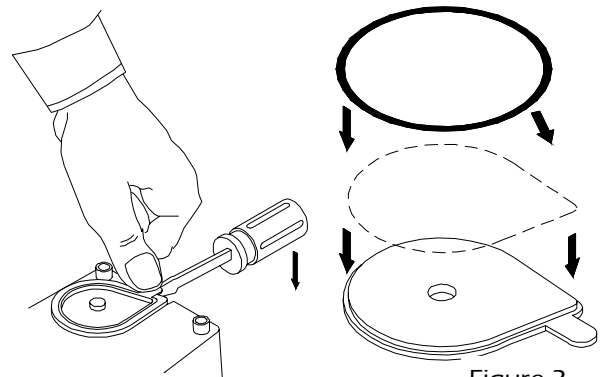

Figure 3
- Place the pump upside down; place a screwdriver under the tab of the baseplate, (put a thumb over the tab to prevent breakage), and pry the cover up and off. (Figure 3)
- Remove the "O" ring seal and keep it clean. (Figure 3)
- Stretch the "O" ring onto the baseplate (Figure 3)